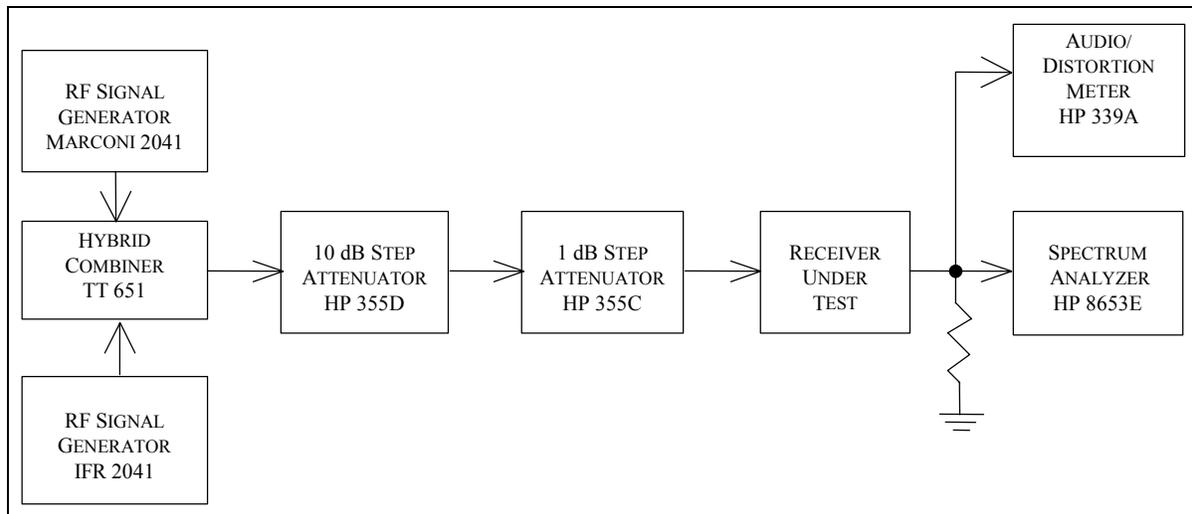

Fig. 5-7 — Blocking Dynamic Range Test Hook-up
5.7.2 Test hook-up (See Fig. 5-7)